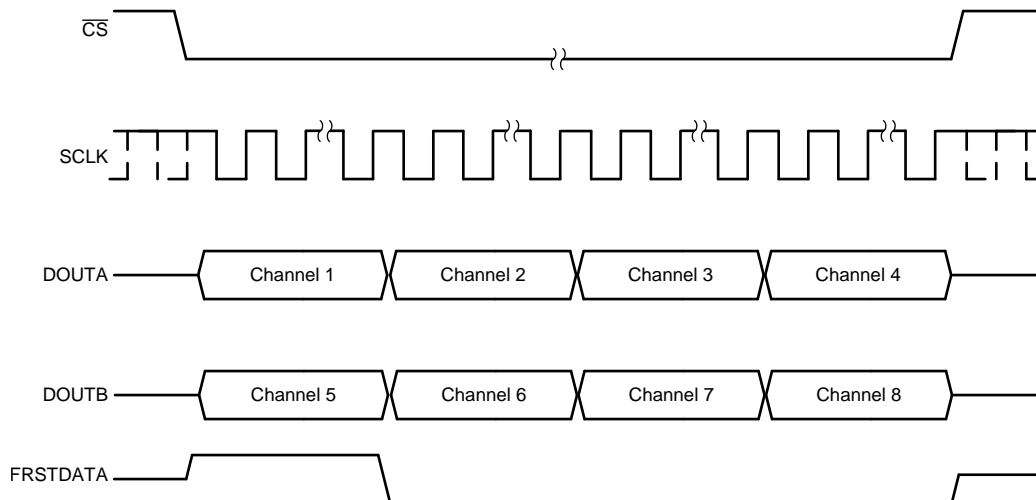

图 70. Data Read Back in the Serial Interface Using Both DOUTA and DOUTB Timing Diagram
- In order to minimize the time for the data read operation in serial mode, both DOUTA and DOUTB can be used to read data out of the device. In this case, the conversion results from the first set of channels (channels 1-4) appear on DOUTA and the conversion results from the second set of channels (channels 5-8) appear first on DOUTB. To read the data for all channels, provide a total of $18 \times 4 = 72$ SCLK cycles. This entire data frame can be created within a single \overline{CS} pulse or each group of 18 SCLK cycles can be individually framed by the \overline{CS} signal. 图 70 shows this operation.